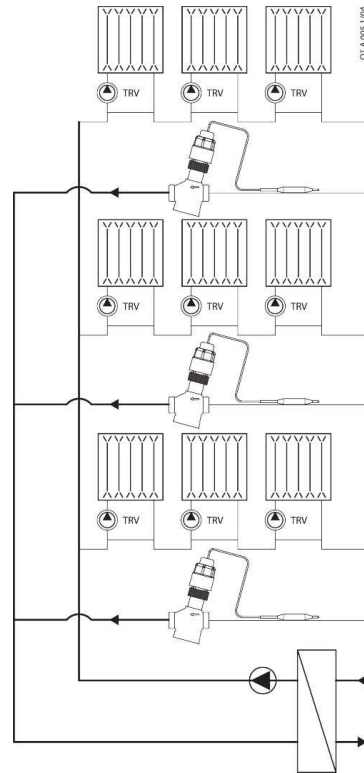

Fig. 2
- one-pipe horizontal loop based heating system (Fig. 2)